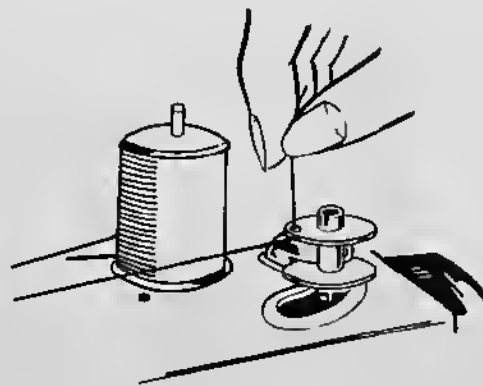

Fig. 2
- 5) Pass the end of the thread through the hole in the bobbin from inside to outside. (Fig. 2)